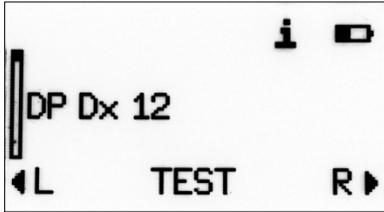

Figure 2
2. From the main menu (Figure 2), select the desired protocol or series using the up or down arrows on the navigator.